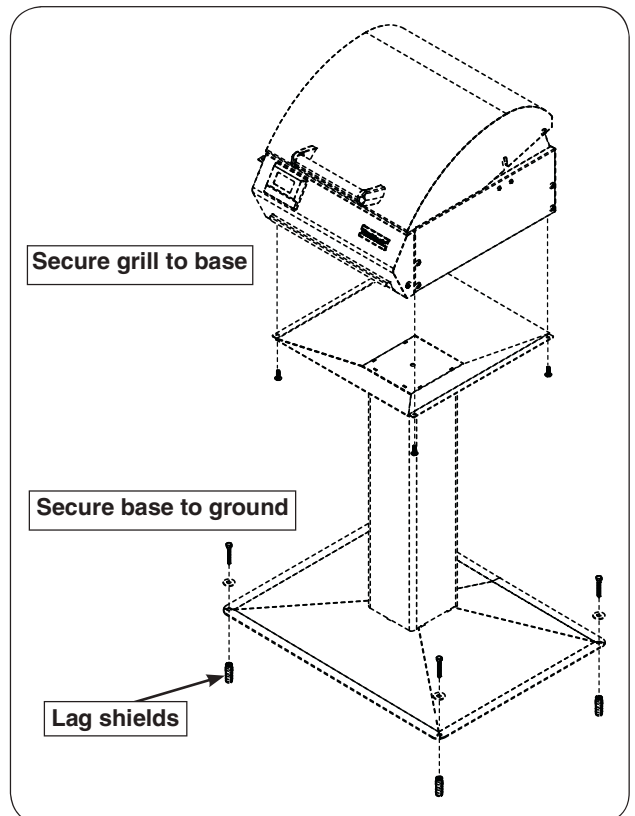

Fig. 9-3 Post model installation
2. Align the electric grill onto the top of the post assembly. Using the same four screws, fasten the electric grill to the post assembly. See Fig. 9-3.
1. Locate the patio mount base in the planned grill location and mark the 4 holes. Drill the marked holes to a 1/2" diameter x 1 1/2" depth. Insert the lag shields (see Fig. 9-3) into the holes, being sure that they are flush with the ground.
2. Align the holes on the patio mount base over the lag shields in the ground. Secure the base with the lag screws (see Fig. 9-3) using a 7/16" nut driver.